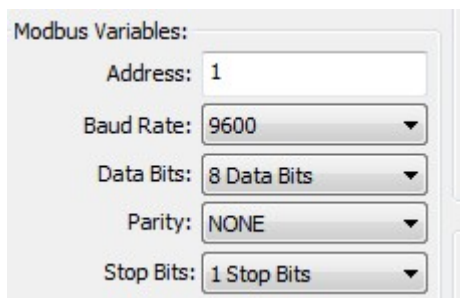

Figure 5.47 ModbusModbus Stop Bit Selection
1. Select "Detailed Design"->"Modbus variable"-> the drop-down box corresponding to"stop bit", the stop bit can be selected as: 1 bit stop bit and 2 bit stop bit, as shown in Figure 5.47